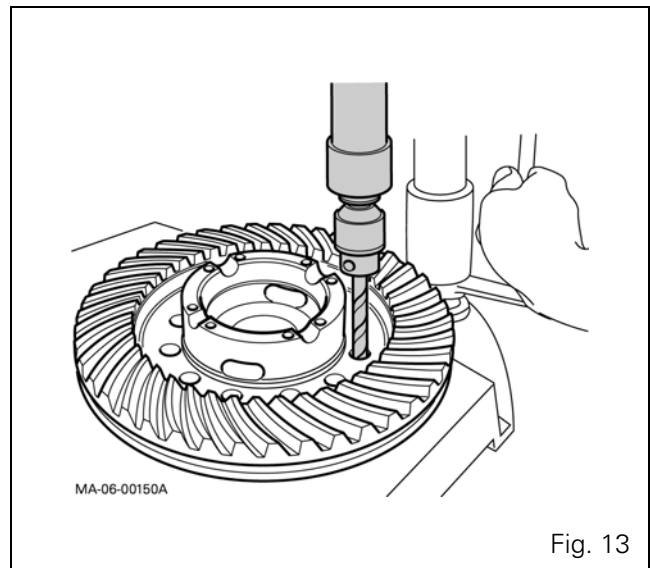

Fig. 13
- 46. Centre punch each rivet (24) (on toothed side of ring gear).
- 47. Using a 5 mm drill, drill out the rivets to a depth of 10 mm (Fig. 13).